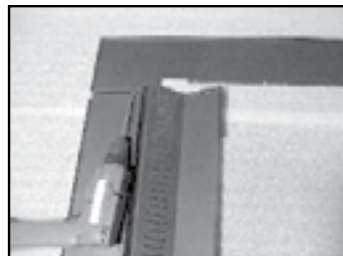

Figure 25.4
5. Align top panel to side panel setting clearance hole over screw head in side panel/curtain assembly. Install (2) 8-32 x 3/8 inch screws through holes in side panel into top panel **(Figure 25.4)**. Complete for both sides.